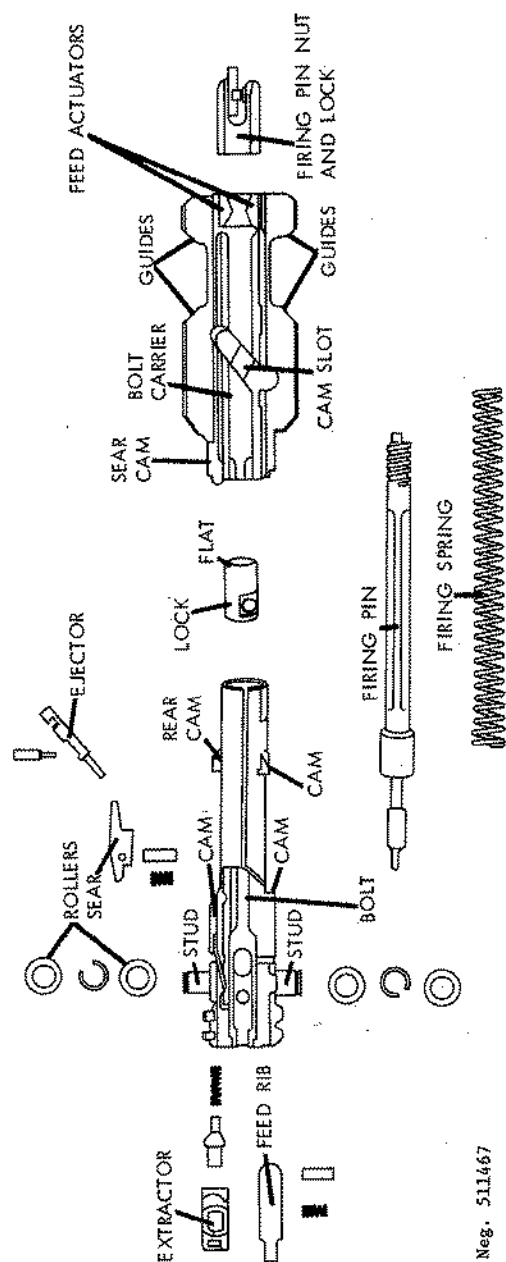

Figure 168. MG34 bolt.
b. Turn the bolt (fig 168) in the bolt carrier until the firing pin clicks. There is either a knurled latch or a plunger at the rear end of the bolt. Press the latch in against its spring and turn it 90°, or, if the bolt is so equipped, press in the plunger; then unscrew the nut from the rear end of the firing pin and pull the bolt forward out of the bolt carrier. Insert the rear end of the bolt (the end from which the threaded firing pin protrudes) into the opening in the rear end of the bolt carrier. Turn the bolt until the shoulders of the firing pin nut mate with the opening in the bolt carrier; press the bolt inward, against spring pressure; then turn it to release the firing pin nut. Ease the bolt away from the carrier and pull the firing pin and spring out of the bolt.
f. Press the ejector (fig 168) (just above the right-hand roller) forward; then, with the extractor downward, insert the bolt, with rollers leading, into the receiver. Press the trigger; the bolt will run forward if the muzzle of the gun is depressed. Insert the driving spring into the receiver and place the butt over the driving spring. Hold the butt twisted about 45° to the left and force it into the receiver against the force of the driving spring. Rotate the butt to the right until the latch snaps into place. Press the belt feed slide fully to the right. Close the cover and fold the bipod.
compressed driving spring, goes forward, and the feed rib drives a cartridge out of the slot in the feed tray and into the chamber. Rollers on the bolt (figs 168 and 169) and the ribs on the bolt carrier ride in runways in the receiver; this prevents any rotary motion of the bolt. Near the end of its forward stroke, the rollers leave the runway and strike cam surfaces on the end of the barrel bushing. These cams rotate the bolt slightly until the cams (fig 168) can be acted on by the cam noses of the bolt carrier. This rotates the bolt to its locked position, and a latch at the bottom rear of the barrel jacket insures that the bolt stays locked until the barrel recoils after firing. The extractor snaps into the groove of the cartridge case, and as the bolt carrier completes its forward movement, a ramp on its bottom side lifts the firing pin sear to release the firing pin and fire the cartridge.
j. The recoil and counterrecoil movement of the bolt operates the feed mechanism. A long, curved belt feed lever, pivoted at the rear end of the cover, has a rib running along its length. This rib fits between two wedge-shaped actuators at the top rear of the bolt carrier (fig 168). As the bolt moves rearward in recoil (in a straight line), the actuators cause the front of the curved belt feed lever to move sideways. The belt feed lever, in